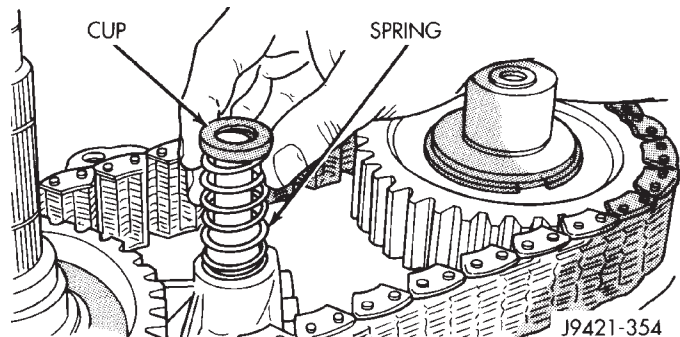

Fig. 92 Shift Rail Spring And Cup Installation
- (8) Install spring and cup on shift rail (Fig. 92).